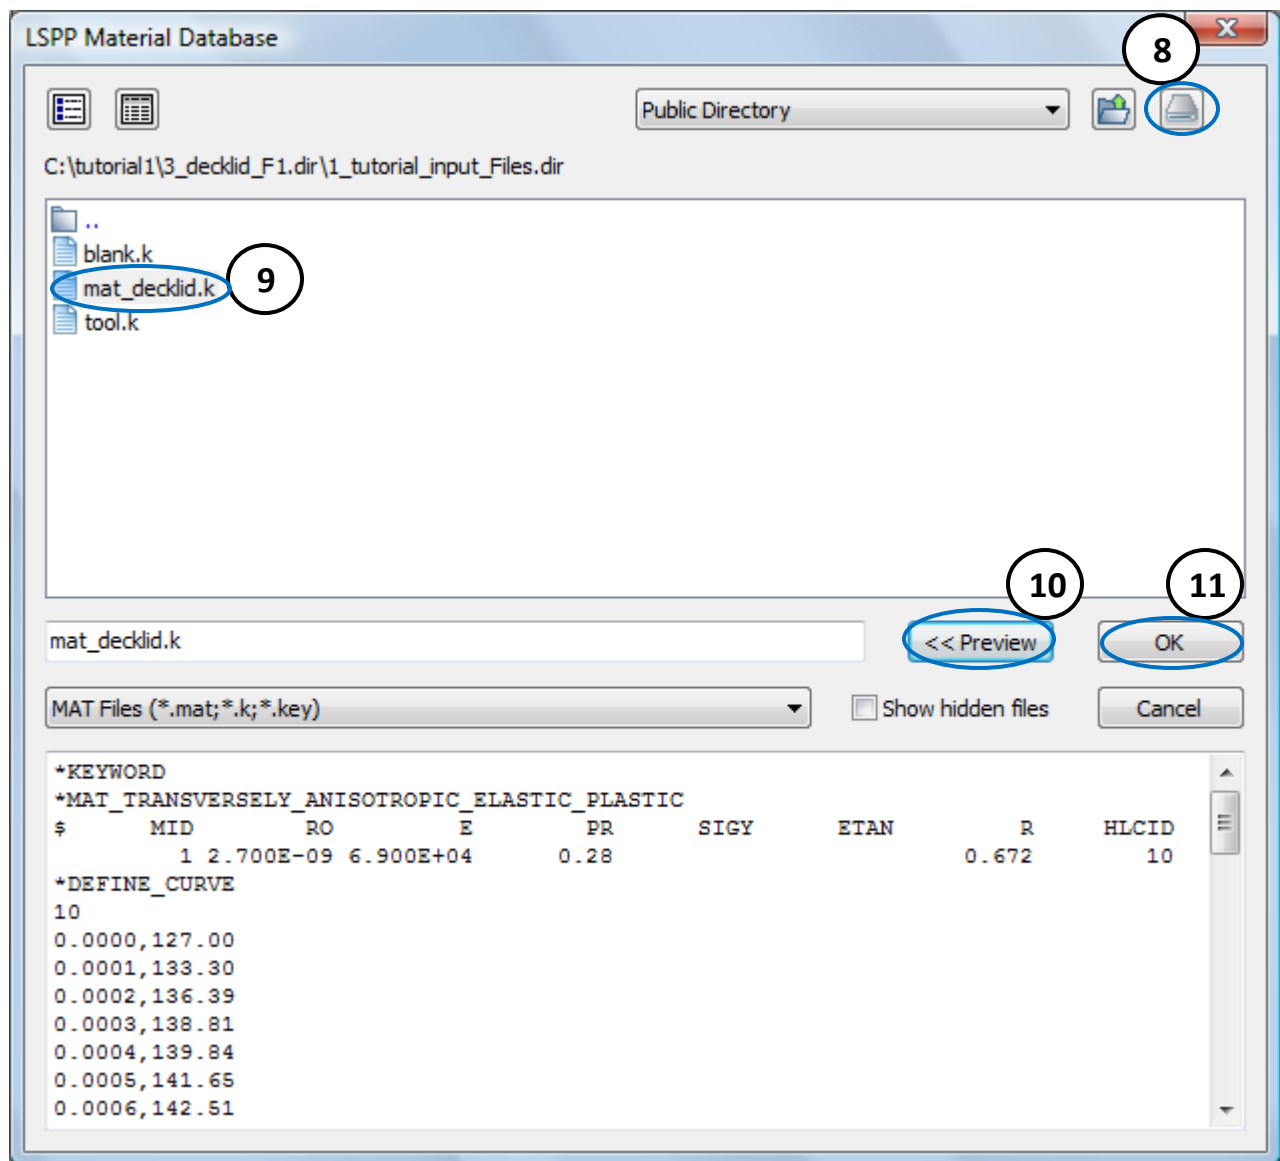

Figure 4
click *MD* (launches *Material Database* Dialog shown in Figure 4)
3. Load material property for the blank (refer to Figure 4)
- click  to go to current working directory (Figure 4)